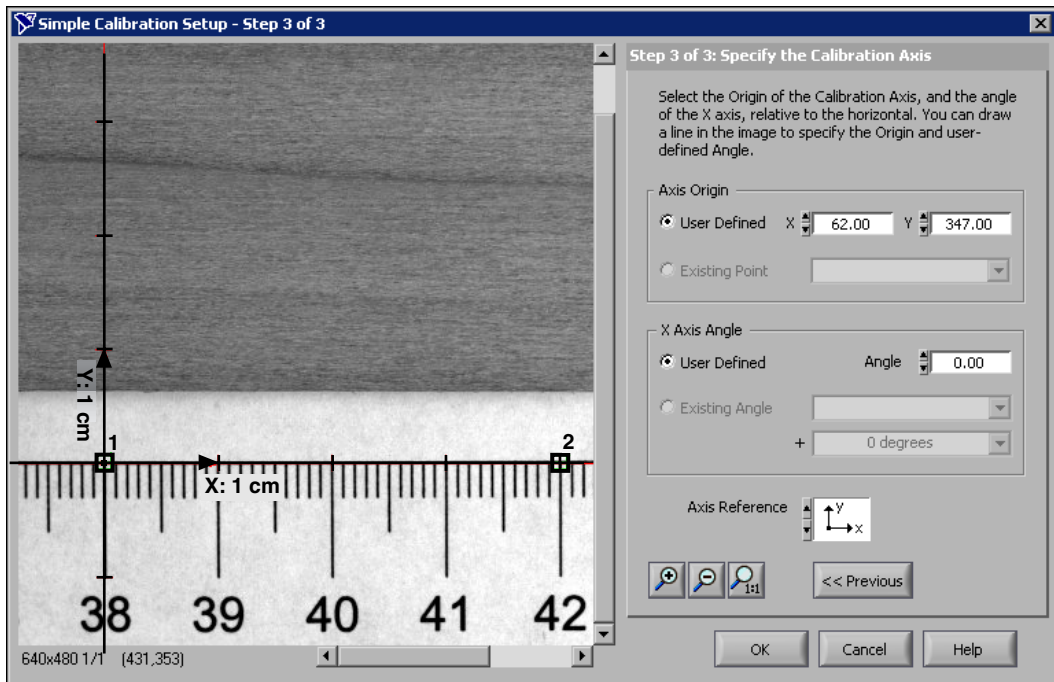

Figure 5-2. Defining the Origin and Angle of the Calibration Axis
- In **Step 3 of 3**, click the 38 cm marking to define it as the origin of the calibration axis. Draw a line horizontally and to the right along the edge of the ruler to define the angle of the calibration axis, as shown in Figure 5-2.